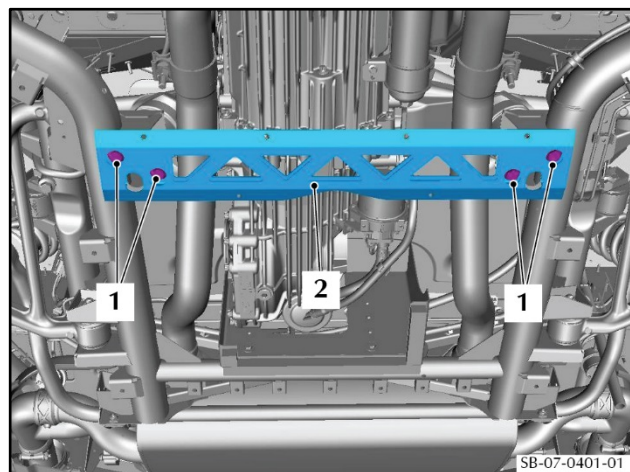

Figure 69
133. Hold the cross brace (2) in position (refer to Figure 69).